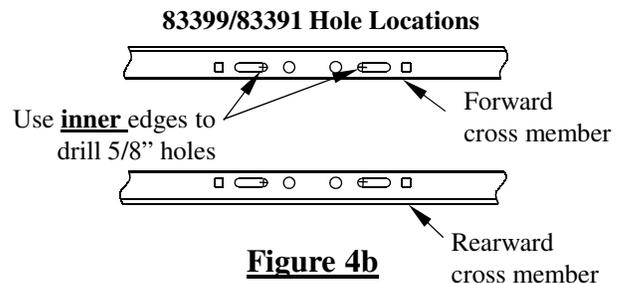

Figure 4b
- 6b.** For **83391 & 83399** use the **inner** edges of the long slots in the forward cross member as a template to drill 5/8" diameter holes through the truck bed as shown in Figure 4b. Not all holes can be drilled from under the vehicle, but should be done later from inside the bed.